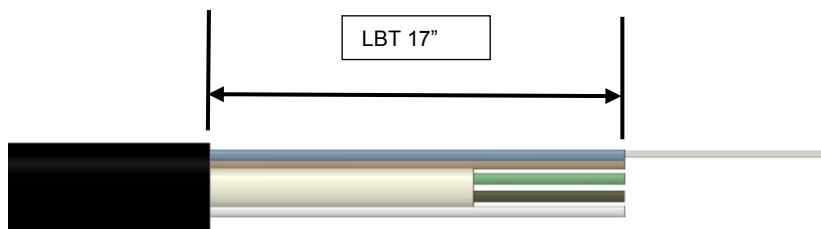

Figure 9
6.1.8 Mark buffer tube 17" from sheath opening, ring cut and remove tubing. See Figure 9.